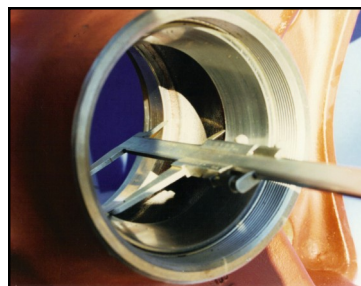

Fig 3.
- Step 2.** Measure the distance between the inner faces of the bearing cups. See Fig 3.